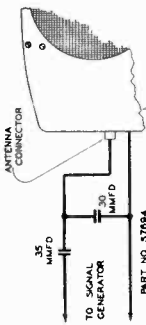

Fig. 3. Dummy Antenna
**IMPORTANT** — Unless certain dummy antenna capacities are employed with either the signal generator, or in making the adjustments on stations, a receiver will not respond properly. The capacities provided in the Zenith dummy antenna part No. S7894, shown in Fig. 3 are identical with the conditions found in the Nash car, and if adjusted accordingly, the instrument will operate properly when reinstalled in the automobile.